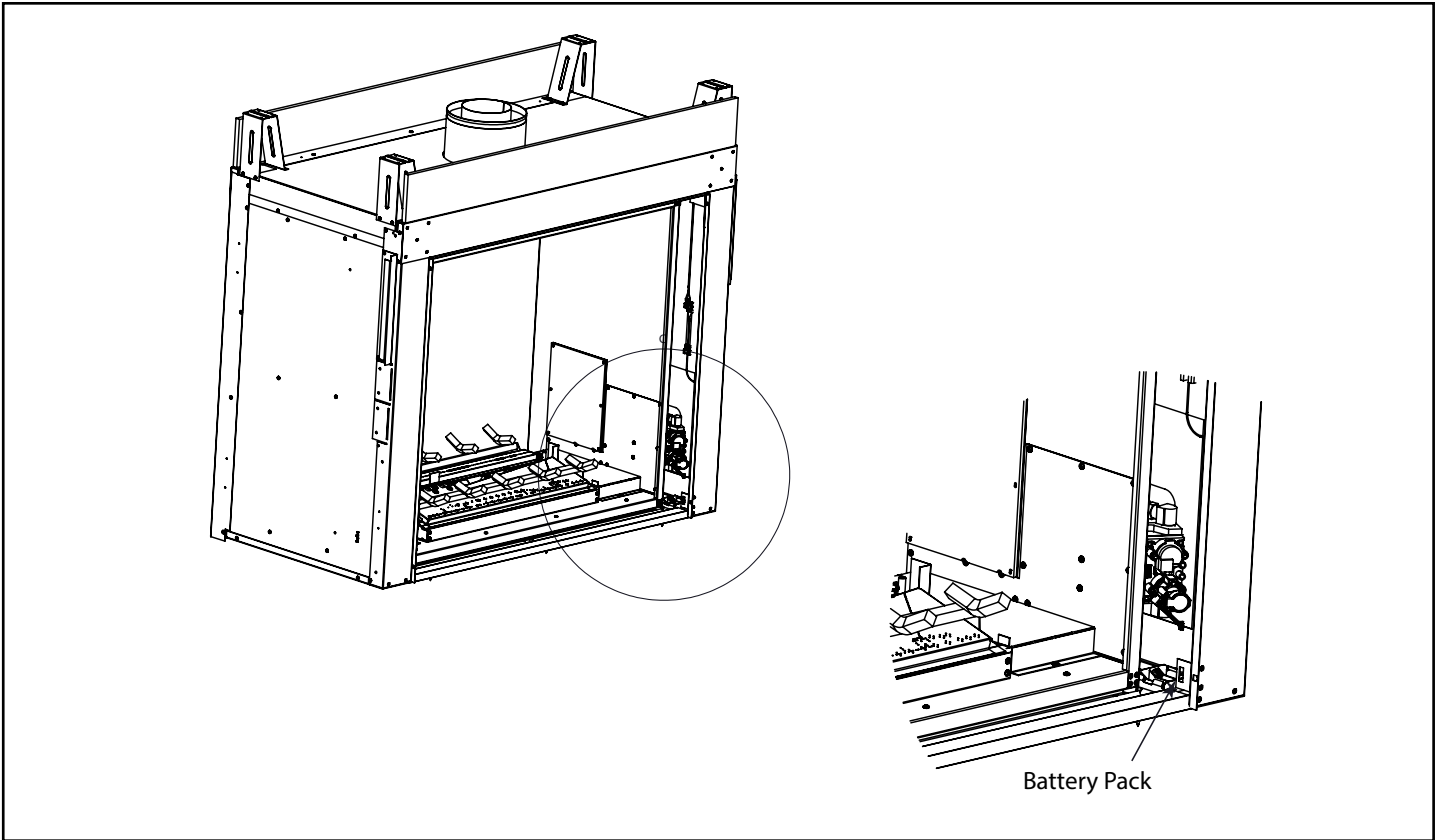

Figure 3.4 Battery Pack Access / Control Cavity Location
1. Access the control cavity of the appliance. See Figure 3.4 for location.
4. Locate the battery tray in the right corner and insert four AA cell batteries. Battery polarity must be correct or module damage will occur. See Figure 3.4. A complete wiring diagram is included in the Electrical section of the appliance Installation Manual.